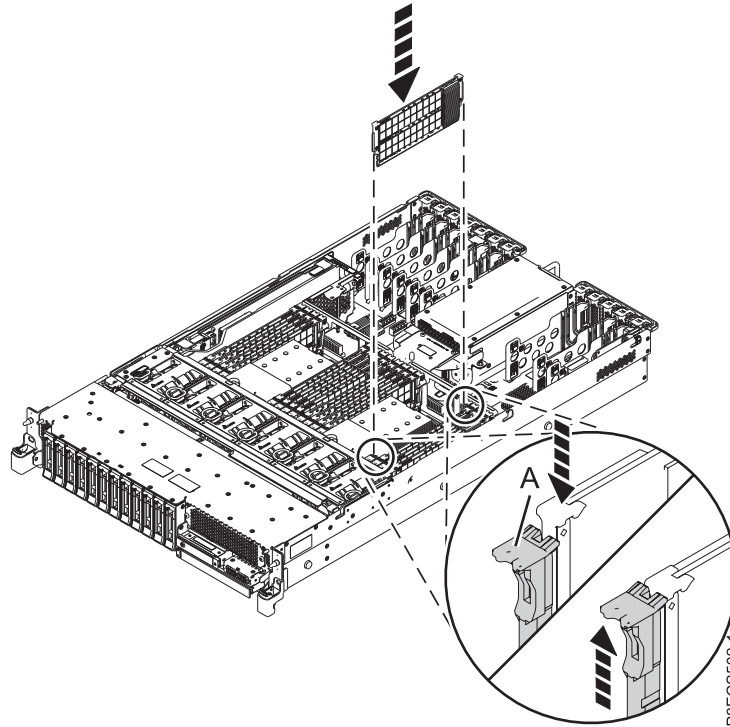

Figure 8. Installing or replacing a memory module in the 5148-21L, 5148-22L, 8247-21L, 8247-22L, 8284-21A, or 8284-22A system
5. Press the memory module firmly into the slot until the locking tab **(A)** locks in place. See Figure 8 on page 13.